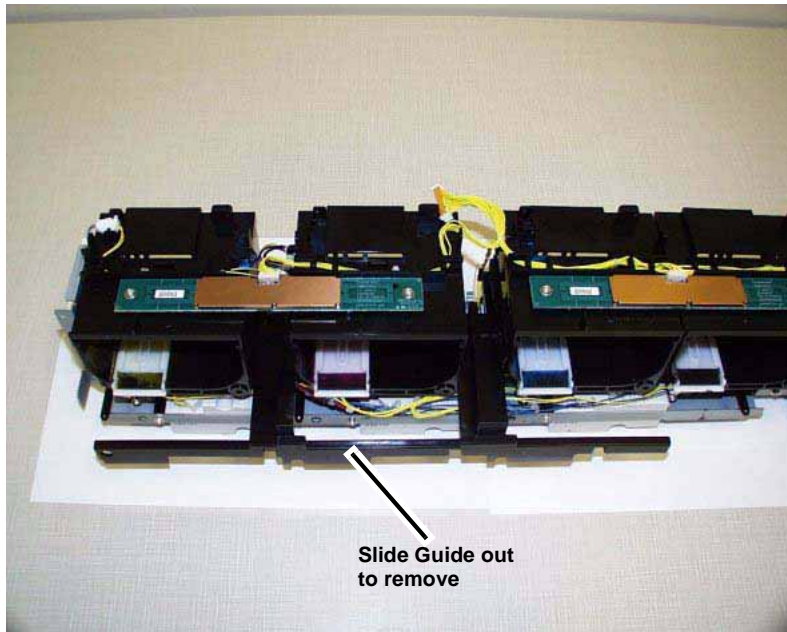

Figure 1 Removing the Guide
2. Remove the Guide (Figure 1).